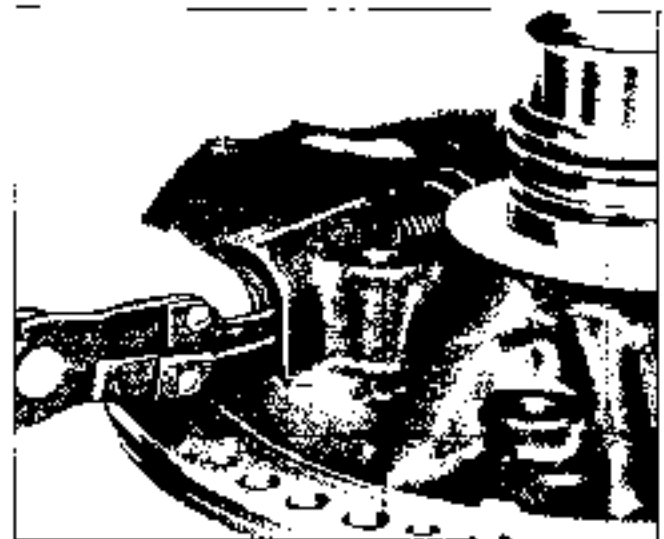

Fig. 7F-74 Removing Boost Valve Sleeve Snap Ring
8. Remove boost valve sleeve, valve, spring, washer and pressure regulator valve (Fig. 7F-75).